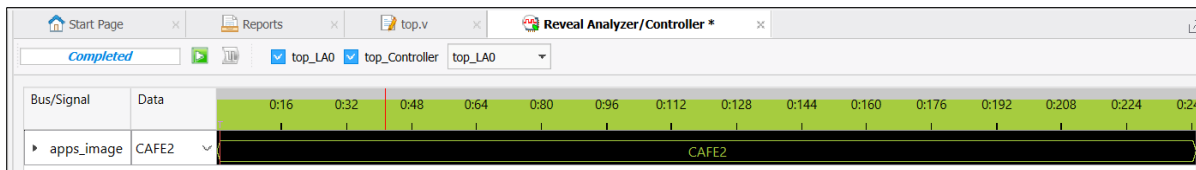

Figure 7.8. apps_image Showing CAFE2
- b. Run Reveal Analyzer and the apps_image displays CAFE2. LED D3 and D4 are blinking, indicating that Alternate Pattern 2 is currently running on the board (Figure 7.8).